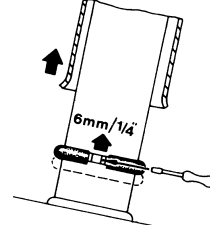

Fig 2
- Extend the tipping cylinder and push, as shown in figure 2, the ring 6 mm upwards. Secure the ring by tightening the clamp with a tightening torque of 5 Nm.